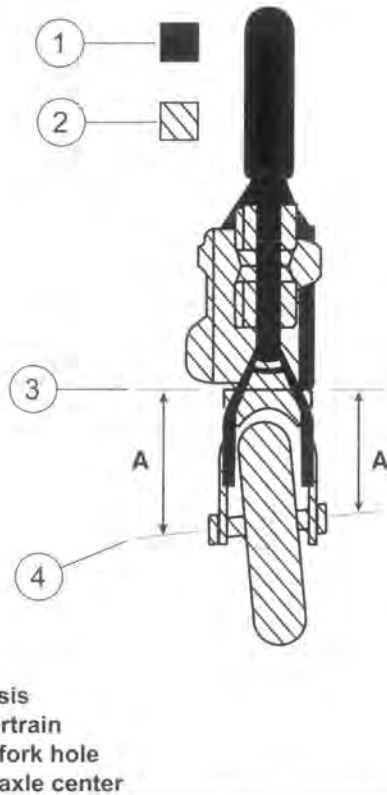

Figure 2-49. Adjust Axle Adjusters until A Equals A
- See Figure 2-49. Left and right measurements must be equal within 1/32 in (0.8 mm). Use axle adjusters to adjust within specifications.